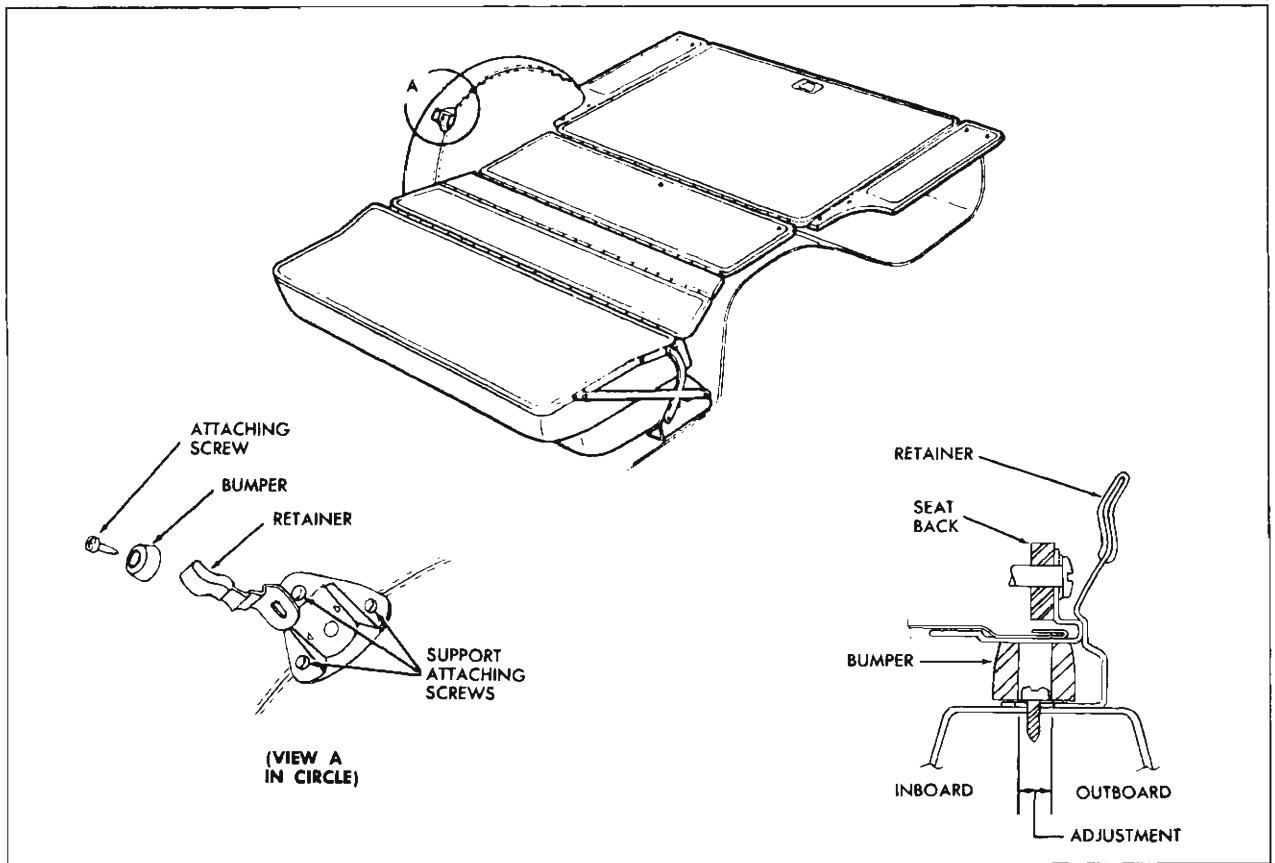

Fig. 17-11 Folding Rear Seat Back Bumper, Retainer and Support
1. With folding rear seat back in "down" position, remove screw shown in View "A", Fig. 17-11, and remove bumper and retainer from wheelhouse support.
2. Remove three (3) screws shown in View "A", Fig. 17-11 and remove support from wheelhouse assembly.
**NOTE:** The folding rear seat back retainer is adjustable inboard or outboard (See Fig. 17-11). To adjust retainer, raise folding rear seat back to "up" position and check retainer tension. Lower folding seat back and loosen retainer attaching screw. Adjust retainer inboard or outboard as required then tighten attaching screw. Recheck